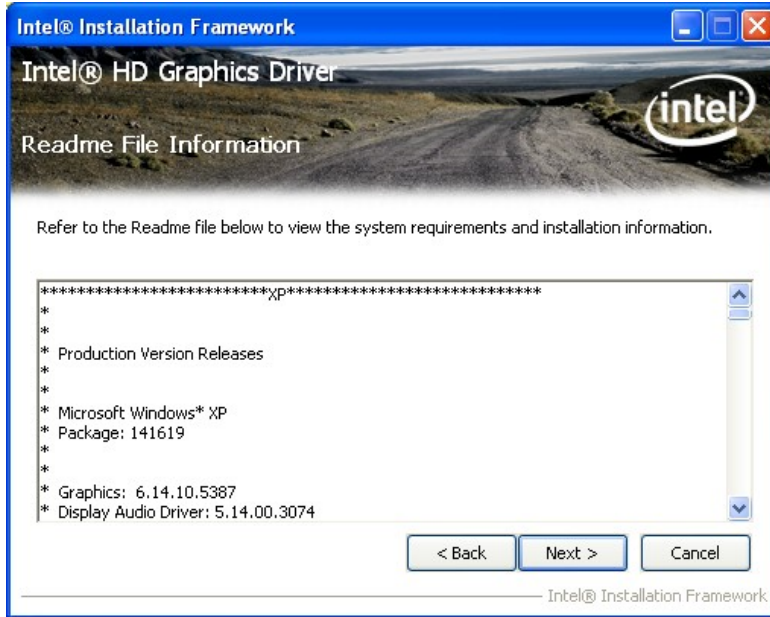

Figure 6-11: Graphics Driver Read Me File
Step 8: The Read Me file in Figure 6-11 appears. Click **Next** to continue.